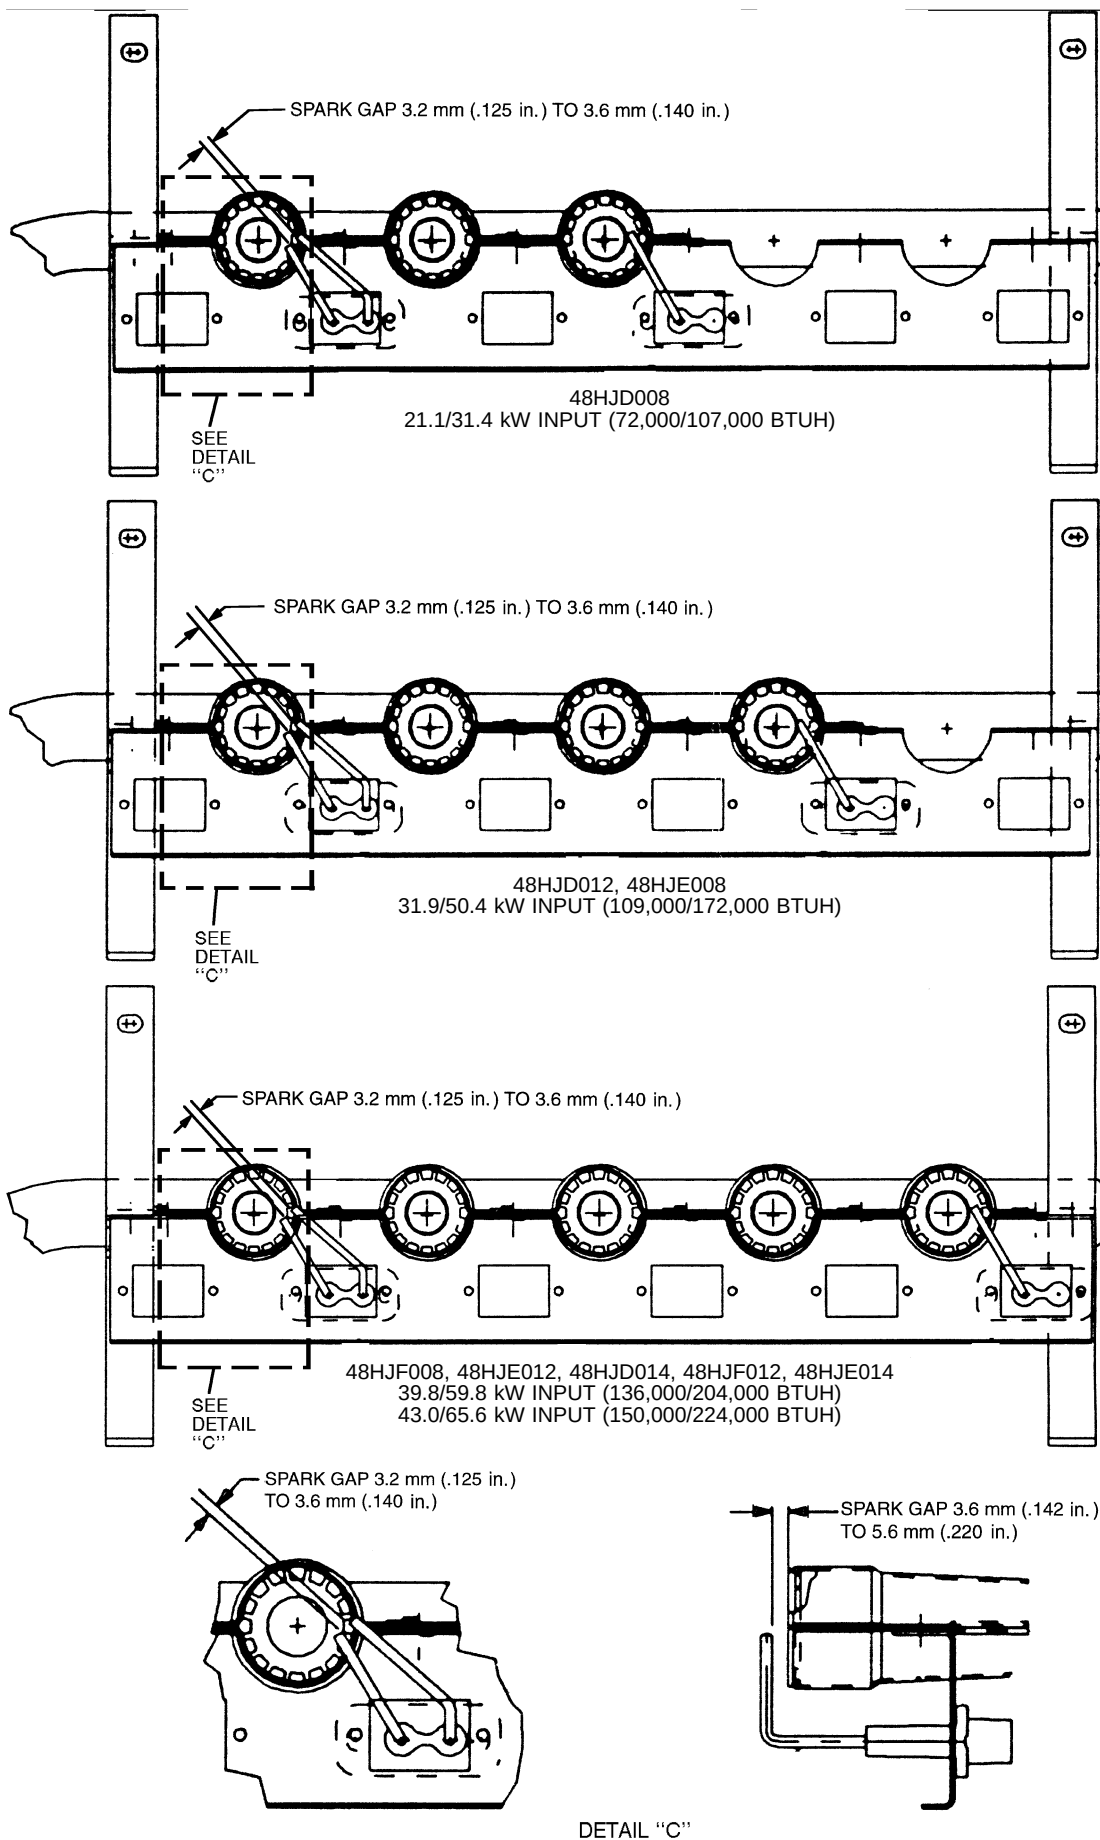

Fig. 35 — Spark Gap Adjustment
4. Adjust spark gap. See Fig. 35.